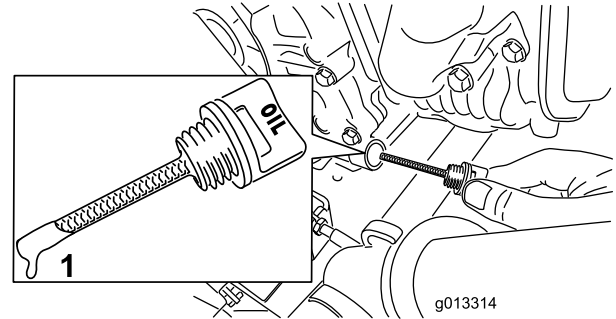

Figure 7
3. Clean around the dipstick (Figure 7) so that dirt cannot fall into the filler hole and damage the engine.
4. Unscrew the dipstick and wipe the end clean (Figure 7).
5. Screw the dipstick fully onto the filler tube (Figure 7).